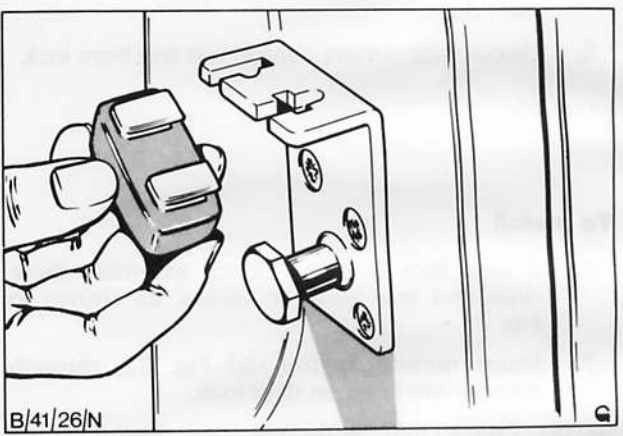

Fig. 24. Pull striker plate rubber from its location
1. Prise rubber clear of retaining lugs on striker plate, Fig. 24.